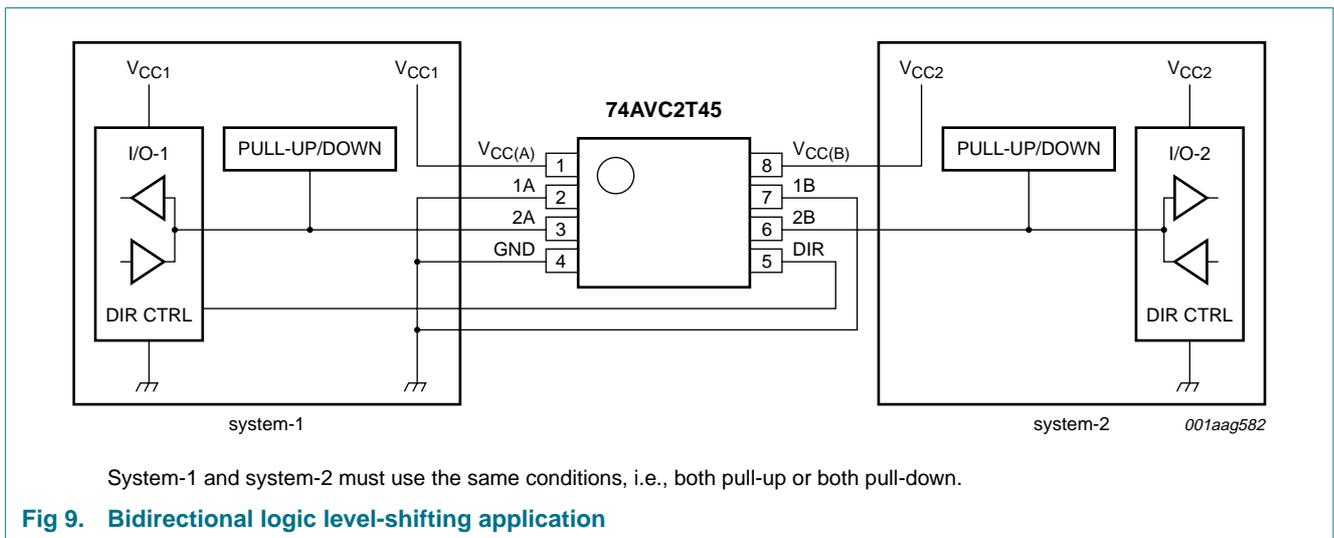

Fig 9. Bidirectional logic level-shifting application
Figure 9 shows the 74AVC2T45 being used in a bidirectional logic level-shifting application. Since the device does not have an output enable (OE) pin, the system designer should take precautions to avoid bus contention between system-1 and system-2 when changing directions.